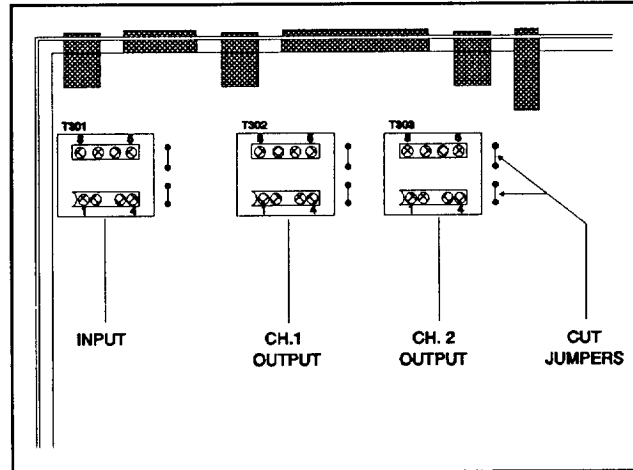

Figure 8 Transformer and Jumper Locations
3. Locate the transformer mounting areas near rear of the unit on top of the P.C.B. (see Figure 8 for exact locations).
4. Cut two jumpers for each transformer installed (see Figure 8 for exact locations).